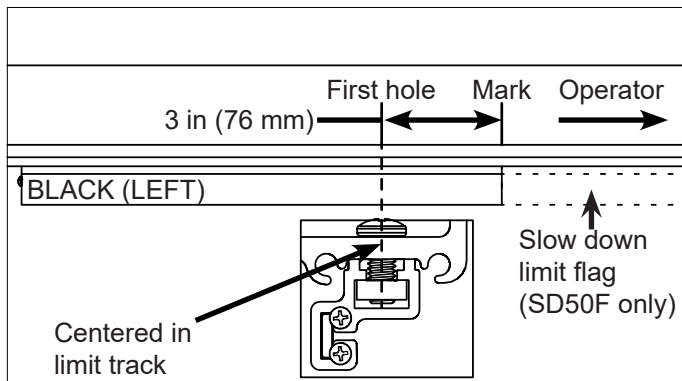
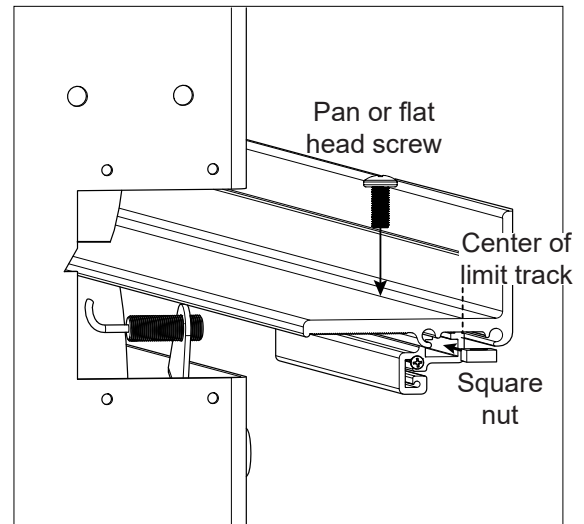
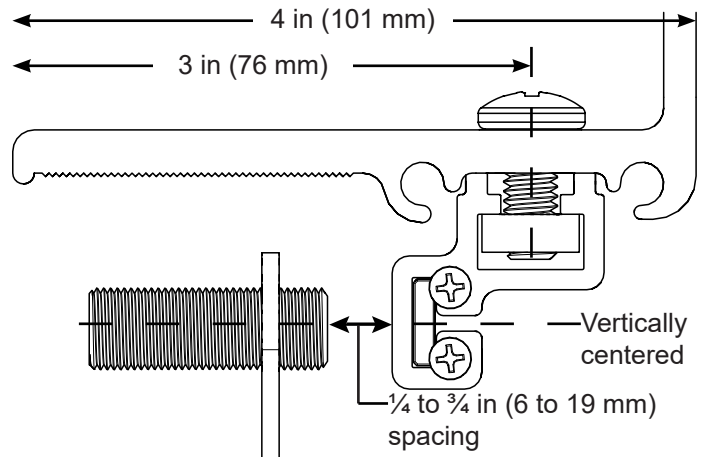

Figure 12. Drill First Limit Flag Hole (Left Limit)
Figure 13. Install Limit Flag
Figure 14. Set Dual Limit Sensor Spacing
5. Drill one hole 3 in (76 mm) from mark away from the operator and approximately 3 in (76 mm) from the edge of the drive rail (Figure 12 and Figure 14).
7. Install a screw into each hole, thread a square nut onto each screw, and slide the limit flag onto the square nut (Figure 13).
9. Set dual limit sensor spacing: loosen the two nuts ( $1\frac{1}{16}$  in) on the dual limit sensor, adjust the spacing between the dual limit sensor and stop limit flag face to  $\frac{1}{4}$  to  $\frac{3}{4}$  in (6 to 19 mm), and tighten the nuts to hold this spacing (Figure 14).
Make sure the limit flag screws are centered in the limit track (Figure 12 and Figure 13).
Make sure the dual limit sensor is centered on the limit flag (Figure 14).